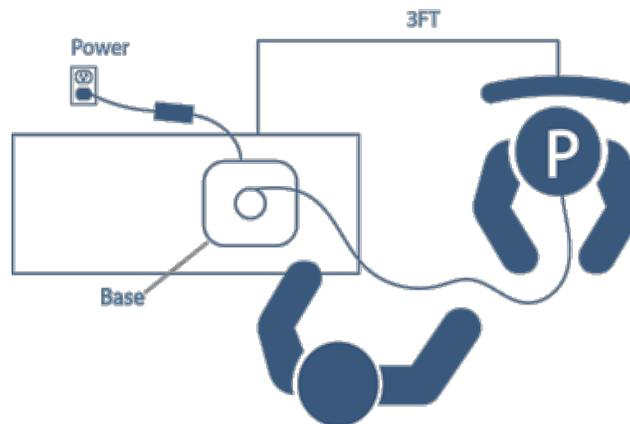

Figure 6 – Treatment Location Example (Top View)
2. The Base should be set up on a stable surface within 3 feet of the patient. If desired, the Base can be set up on a rolling cart for easy transport (Figure 6).